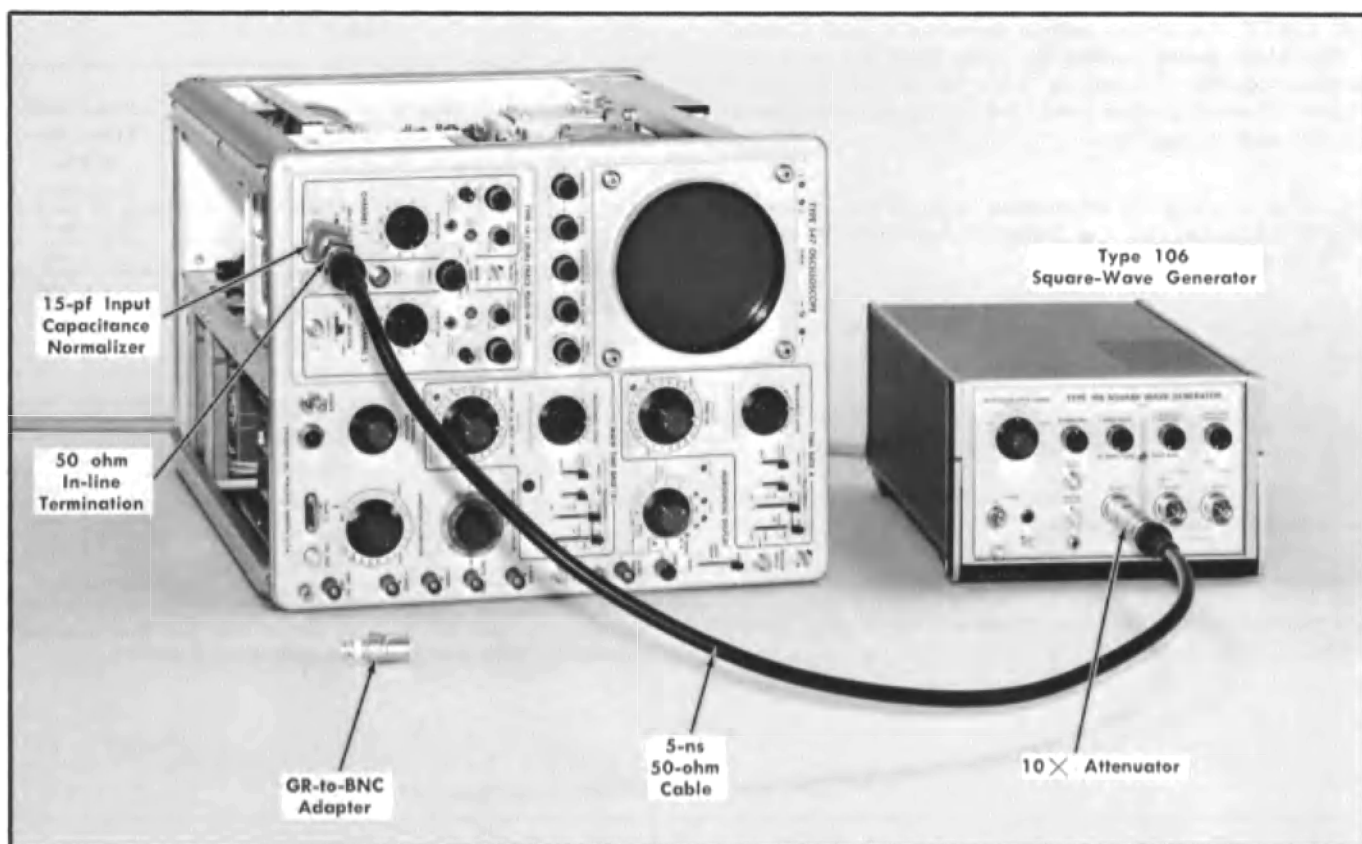

Fig. 7-24. Test equipment setup for step 21.
21. Adjust Input Capacitance and Attenuator Compensation (Both Channels) ①
a. Test equipment setup, with connections made at completion of step 21c, is shown in Fig. 7-24.
c. Apply the 2.5 kHz signal from the Type 106 high amplitude output connector through a 10× attenuator, 5-ns 50-ohm cable, 50-ohm in-line termination and a 15-pF input capacitance normalizer to the Channel 1 INPUT connector on the Type 1A1 (see Fig. 7-24).
lustration shown in Fig. 7-24 and described in step 21c.